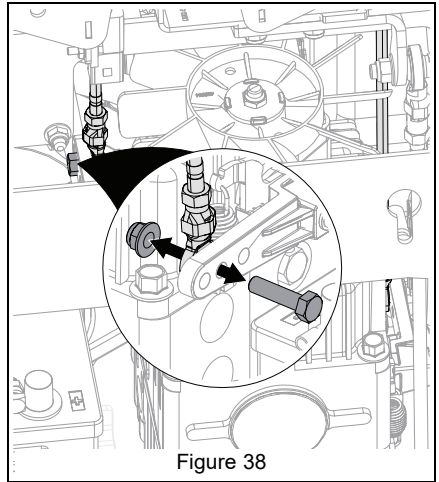

Figure 38
2. Remove and retain hardware securing control linkages on either side of the pump. See Figure 38.